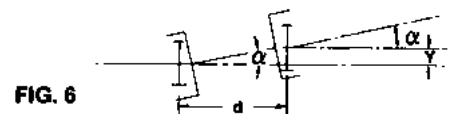

FIG. 6
- Fig. 6 shows a double engagement coupling of two meshes each having $\pm 2\alpha^\circ$. If the distance between meshes is "d", then the maximum parallel offset "Y" is equal to: